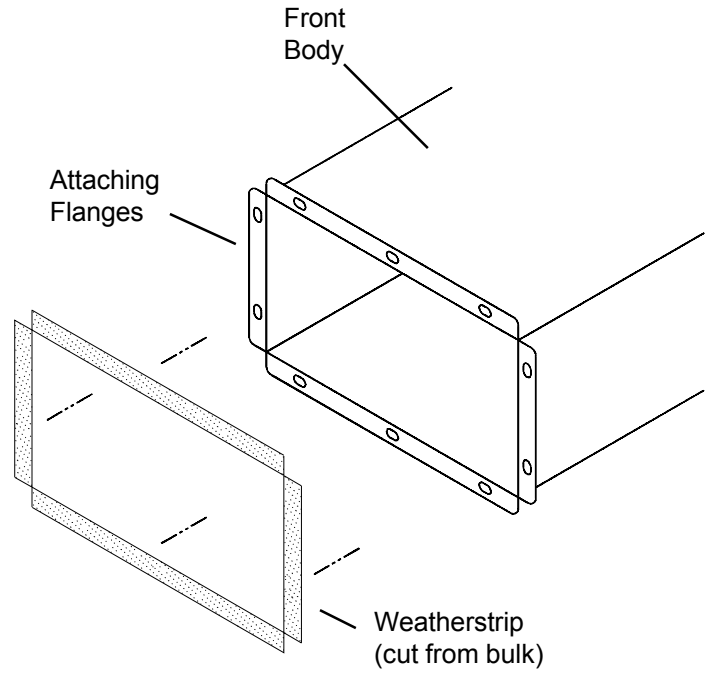

Figure 5. Front Body Weatherstripping
4. Cut and adhere Weatherstripping to fit the attaching flanges on the Front Body (see Figure 5.).